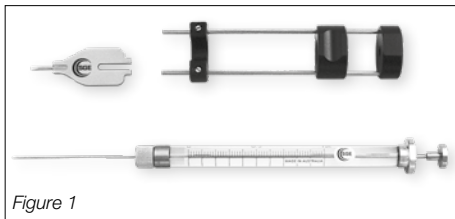
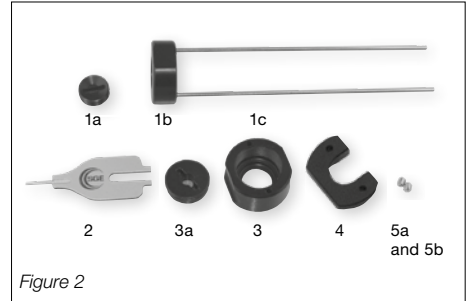

Figure 1
Figure 2
1. The RAX is supplied pre-assembled as shown in Figure 1. Before fitting the adaptor to a syringe the adaptor needs to be disassembled using the double-ended tool provided, the component parts of the adaptor are shown in Figure 2.